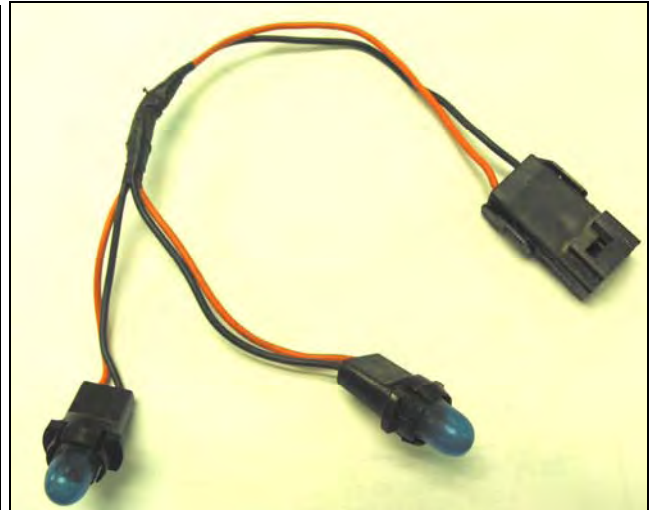

Figure 7.3.2 *Speedo. Lighting Pigtail*
- 7.3.2 The SPEEDOMETER wires come pre-terminated with a connector installed. This connector provides power to the lighting of the speedometer. Connect this connector onto the factory Speedometer lighting pigtail coming from the gauge. **See Figure 7.3.2**